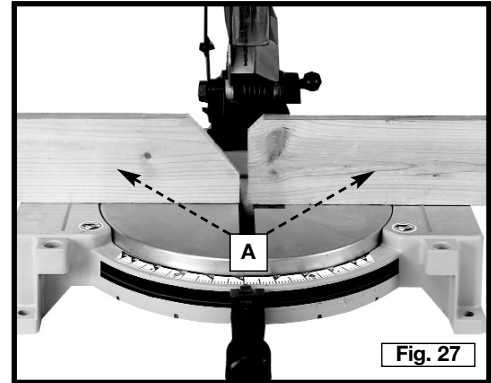

Fig. 27
⚠WARNING When performing multiple or repetitive operations that result in small cut-off pieces (one inch or less), the saw blade can catch the cut-off pieces and project them out of the machine or into the blade guard and housing, causing damage or injury. To limit the risk, mount an auxiliary wood fence on your saw (Fig. 27).
Holes are provided in the fence to attach an auxiliary fence (A) Fig. 27. This auxiliary fence is constructed of straight wood approximately 1/2" thick by 3" high by 20" long. **NOTE:** The auxiliary fence (A) is used **ONLY** with the saw blade in the 0 degree bevel position (90 degrees to the table). When bevel cutting (blade tilted), remove the auxiliary fence.